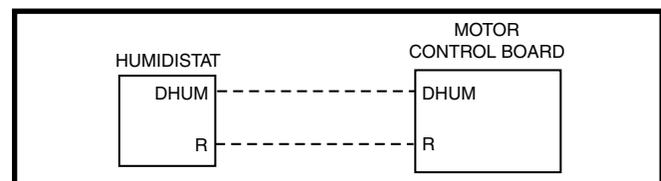

Figure 10. DHUM Wiring Configuration
2. If using a separate humidistat, connect the **DHUM & R** terminals on the humidistat to the **DHUM & R** terminals on the motor control board of the air handler. In this option, the **DHUM** output of the humidistat must be set to be normally open and closed when there is a call for humidification. See Figure 10.